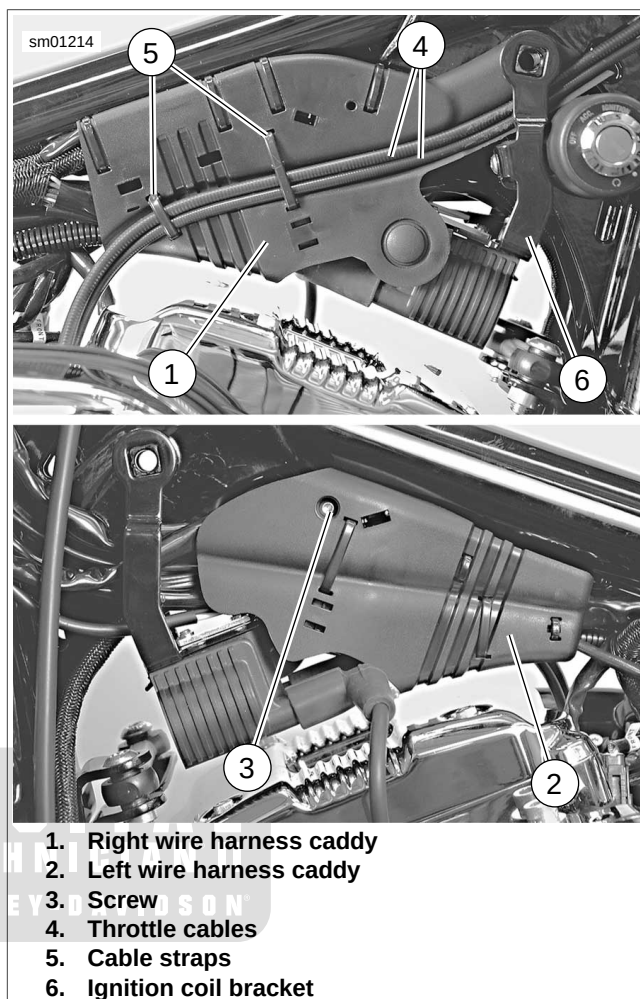
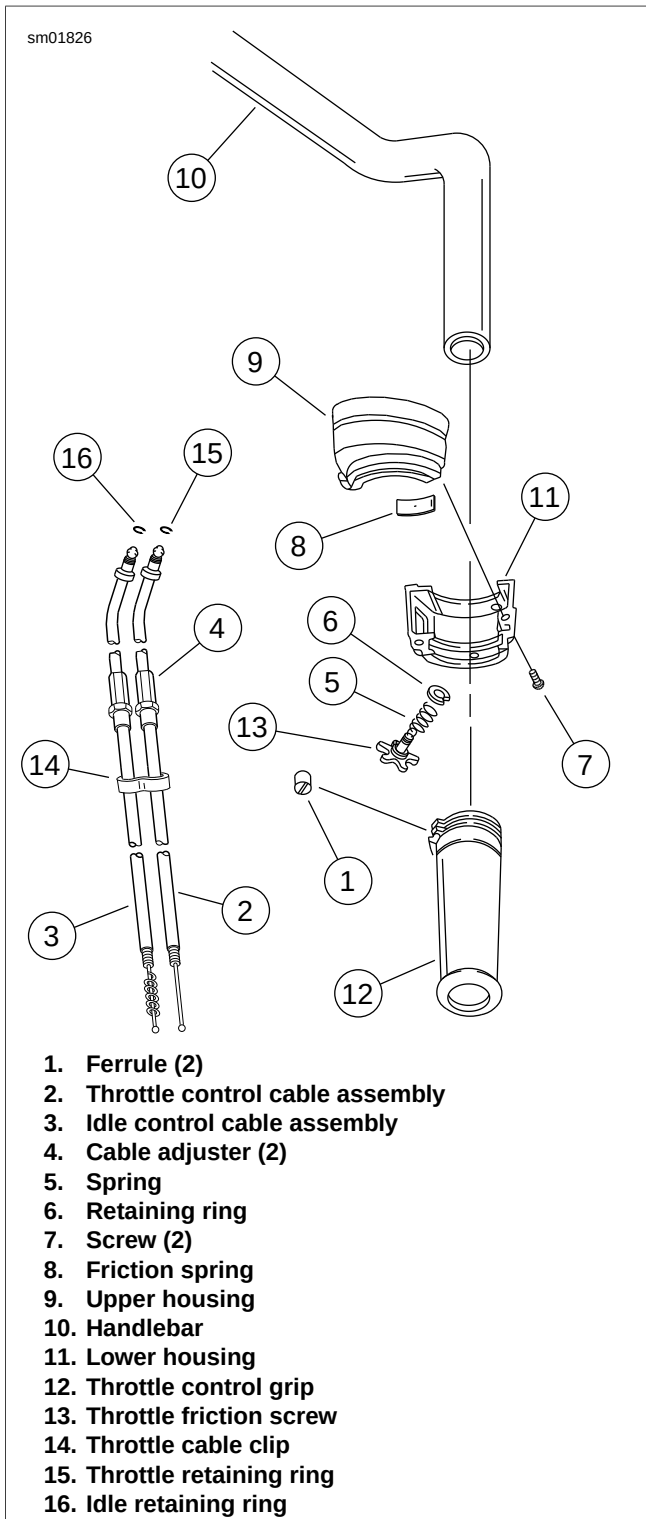
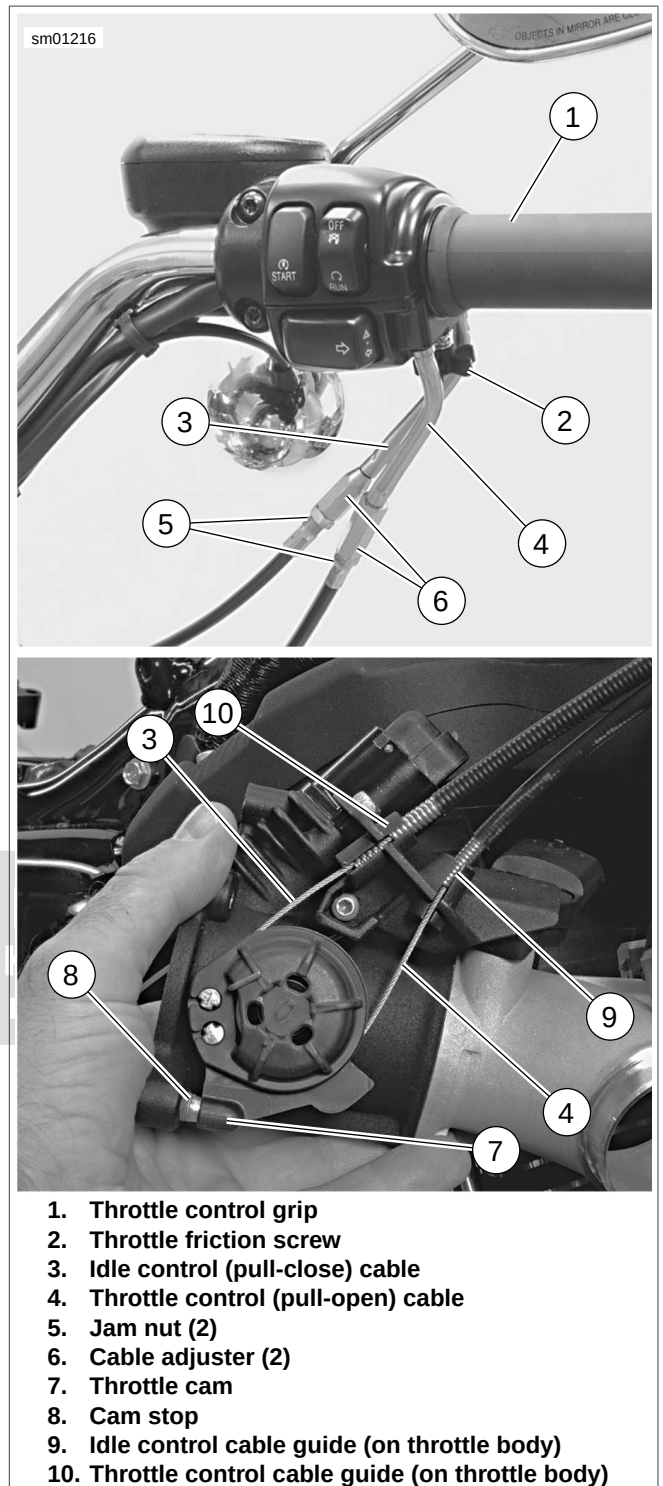

Figure 2-215. Wire Harness Caddy Assembly: XL Models
Figure 2-216. Throttle Control, Right Handlebar
Figure 2-217. Throttle/Idle Control Cable (typical, XL model shown)
- a. See Figure 2-215. Remove screw (3) securing left wire harness caddy (2) to right wire harness caddy (1). See 6.33 ELECTRICAL CADDIES. Separate left wire harness caddy from right wire harness caddy.
- b. Cut cable straps (5) securing throttle cables (4) to right wire harness caddy. Remove and discard cable straps.
- c. Disengage ignition coil bracket (6) uprights from frame bosses and remove throttle cables from recess in right wire harness caddy.
6. See Figure 2-216. Slide rubber boot off each cable adjuster (4).
7. See Figure 2-217. Loosen jam nut (5) on each adjuster (6). Turn adjusters in direction which will shorten cable housings to minimum length.
8. See Figure 2-216. Remove two screws (7) and separate upper housing (9) from lower housing (11).
9. Unhook ferrules (1) and cables (2, 3) from throttle control grip (12) and lower housing (11).
13. See Figure 2-216. Remove friction spring (8), throttle friction screw (13) and spring (5) from lower housing.
1. See Figure 2-216. Apply a light coating of graphite to the handlebar (10) and the inside surface of the upper and lower housings (9, 11).
2. Install spring (5), throttle friction screw (13) and friction spring (8) in lower housing (11).
3. Attach cable assemblies (2, 3) to lower housing. See Figure 2-217. Throttle control cable (4) has a 5/16 in. (7.9 mm) fitting end and is positioned to front of lower housing. Idle control cable (3) has a 1/4 in. (6.3 mm) fitting end and is positioned to rear of lower housing.
4. See Figure 2-216. Install throttle control grip (12) over end of right handlebar (10). Position lower housing (11) onto right handlebar, engaging lower housing with throttle control grip. Position ferrules (1) over cable ball ends, then seat ferrules (with cables attached) in their respective notches of the throttle control grip.
5. Install upper housing (9) over right handlebar and secure to lower housing using screws (7). Tighten screws to 35-45 in-lbs (4.0-5.1 Nm).
8. See Figure 2-217. Install idle control cable (3) housing into inboard (idle) cable guide (9) on induction module.
9. Install throttle control cable (4) housing and spring into outboard cable guide (10) on induction module.
10. **XL Models:** See Figure 2-215. Place throttle cables (4) into channel in right wire harness caddy (1) and secure with two cable straps (5). Note that forward cable strap also secures instrument connector [20] and rear cable strap secures wiring harnesses on other side of caddy wall.
12. **XL Models:** See Figure 2-215. Mount left wire harness caddy (2) to right wire harness caddy (1). Secure with screw (3) and tighten.